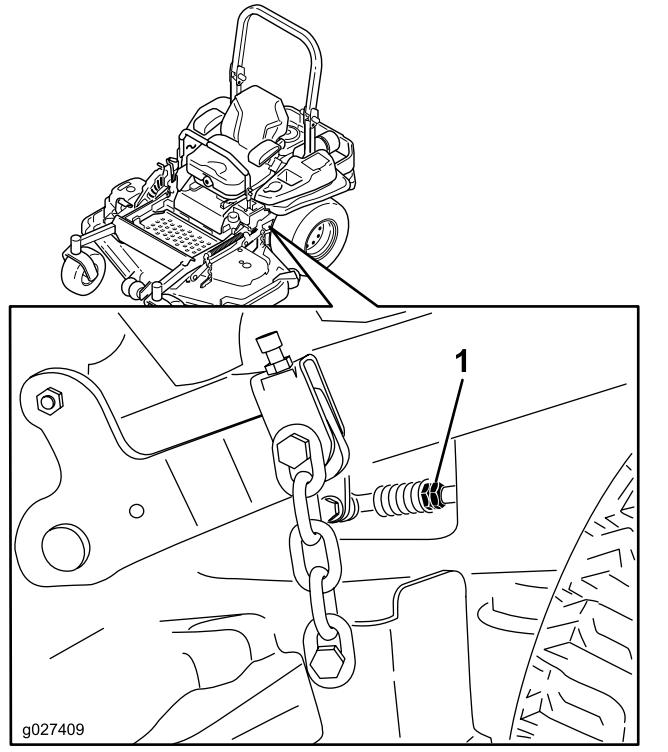

Figure 82
10. Adjust the pump-control-rod lengths by rotating the double nuts on the rod in the appropriate direction until the wheels slightly creep in reverse (Figure 82).